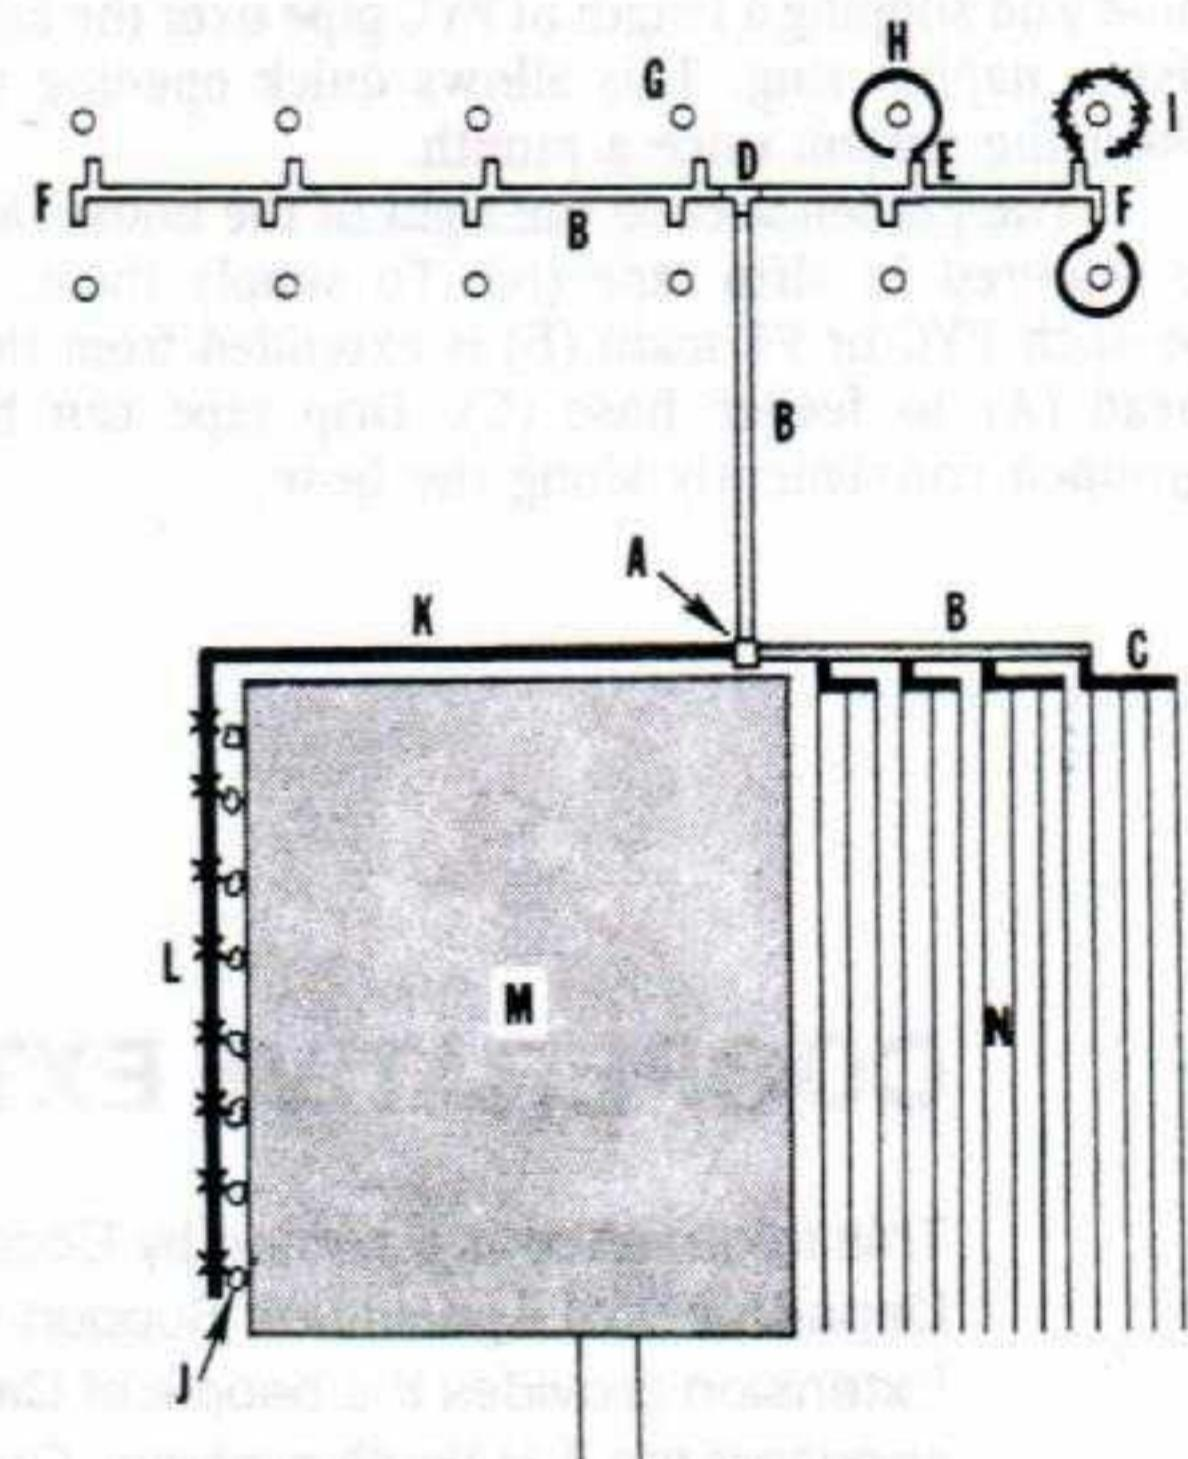
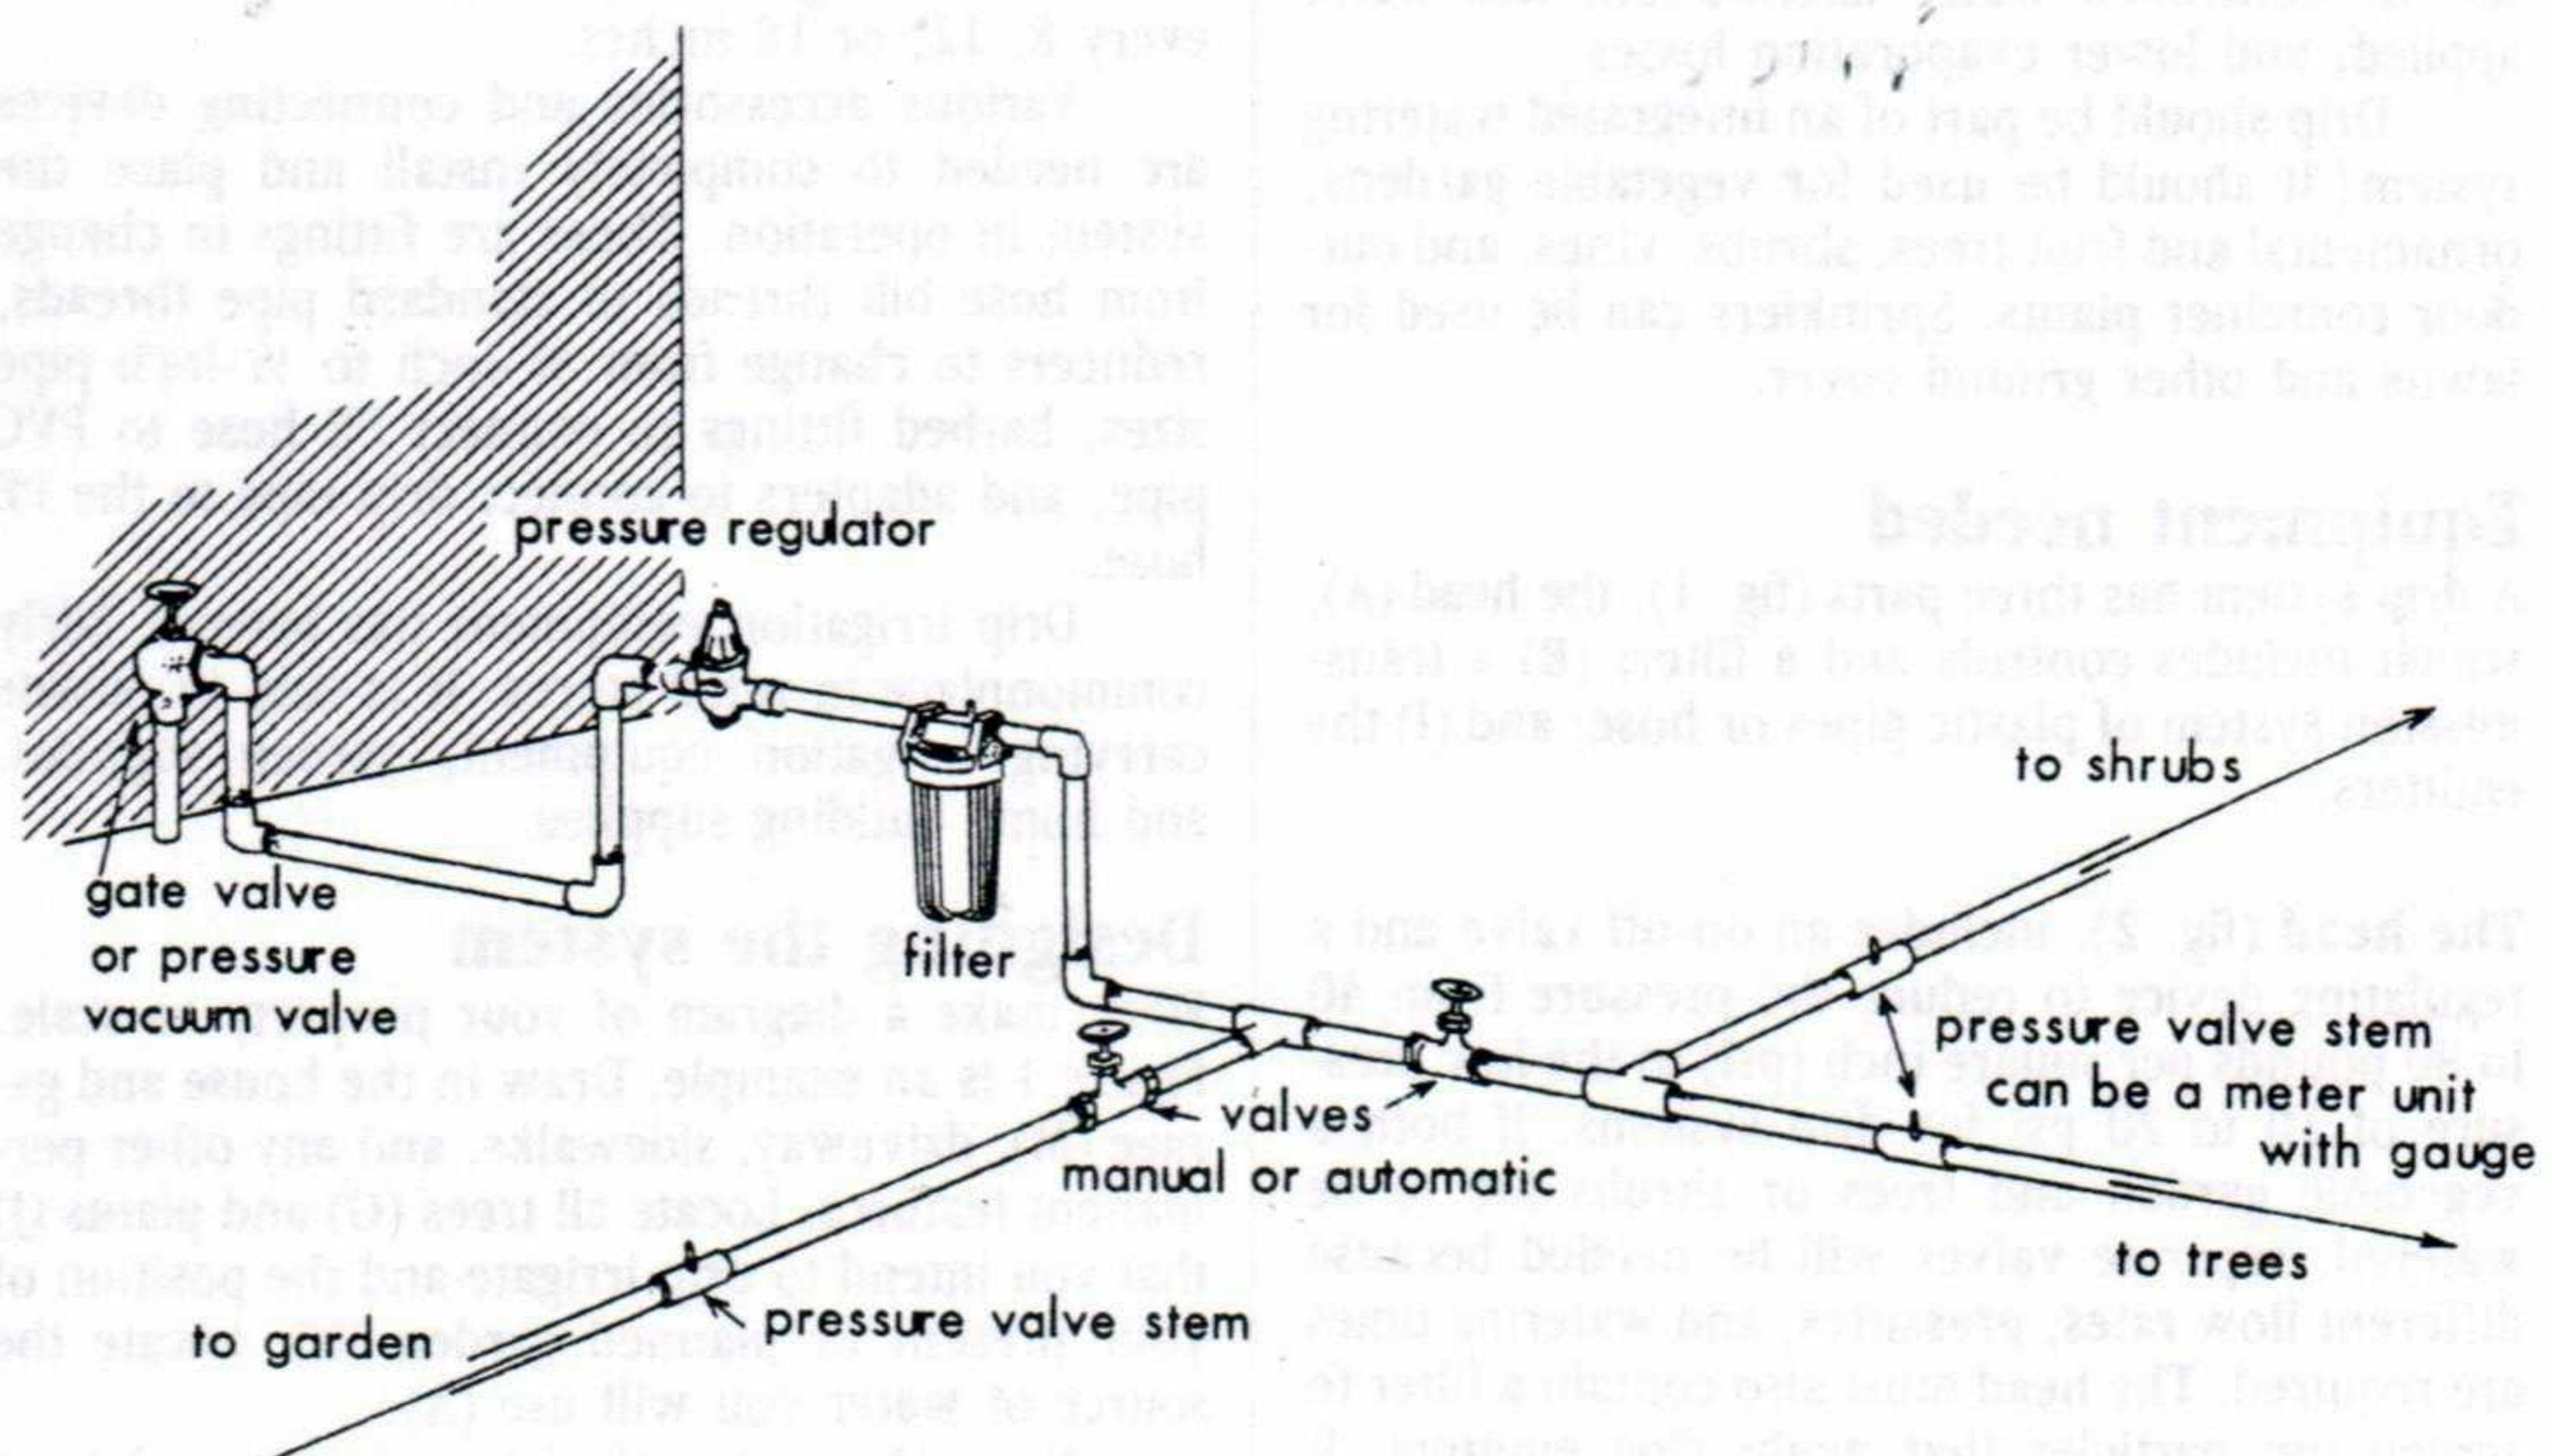

Figure 1. Example layout of a home drip system.
Figure 2. "Head" or control center details.
A drip system has three parts (fig. 1), the head (A), which includes controls and a filter; (B) a transmission system of plastic pipes or hose; and (I) the emitters.
The head (fig. 2), includes an on-off valve and a regulating device to reduce the pressure from 40 to 80 pounds per square inch (psi) to the low pressure of 10 to 20 psi for drip systems. If both a vegetable garden and trees and shrubs are to be watered, separate valves will be needed because different flow rates, pressures, and watering times are required. The head must also contain a filter to screen out particles that might clog emitters. It should also have one or more pressure-measuring devices to help in adjusting the pressure regulator.
First, make a diagram of your property to scale. Figure 1 is an example. Draw in the house and garage (M), driveway, sidewalks, and any other permanent features. Locate all trees (G) and plants (J) that you intend to drip irrigate and the position of your present or planned garden (N). Locate the source of water you will use (A).
IDENTIFICATION OF COMPONENTS IN FIGURE 1
In figure 1, there are 12 trees (G) with six 1 gallon per hour (1 gph) emitters per tree at 15 psi. The flow needed at D is 1.2 gpm because $12 \text{ trees} \times 6 \text{ gph} \div 60 \text{ min/hr} = 1.2 \text{ gpm}$. The table shows that a 1/2-inch main line (B) will be sufficient.
Techniques for installing the relatively simple system in figure 1 are described in this leaflet. Professional help is recommended for more complicated situations. Check your local city codes for requirements for anti-backflow devices and their locations.
The lot in figure 1 is 90 by 120 feet, with a 40 by 50 feet house (M). It has 12 fruit trees (G) in back, 8 shrubs (J) on the left side of the house, and a 30 by 50 feet garden space on the right (N). Details of the head (A) are shown in figure 2. The main line (B) will be 1/2-inch PVC, buried about 8 inches. PVC tees (E) and elbows (F) have internal barbs and provide places to connect the PE feeder hose (H) on which individual emitters (I) are placed. Feeder hoses of 1/2-inch PE (H, K, and C) are laid on the ground or buried 2 or 3 inches. These hoses are closed at the ends by folding back 4 inches of hose and slipping a length of PVC pipe over the fold like a napkin ring. This allows quick opening to flush the system once a month.